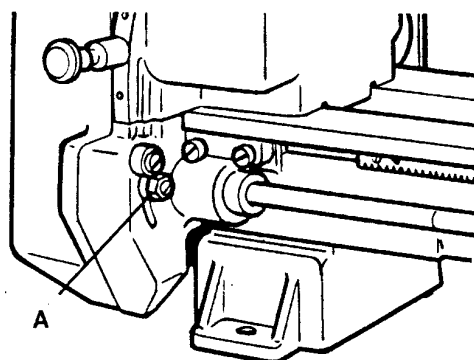

FIGURE 15
4. Swing entire gear bracket upward and tighten so that the 64 tooth gear meshes with the 16 tooth stud gear. The gear bracket is tightened in position by locking the nut (A Figure 15) on the side of the leadscrew support bracket.